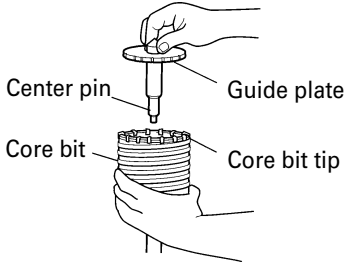

Fig. 14
- (3) Insert the center pin into the guide plate until it stops.
(4) Engage the guide plate with the core bit, and turn the guide plate to left or right so that it does not fall even if it faces downward. (Fig. 14)